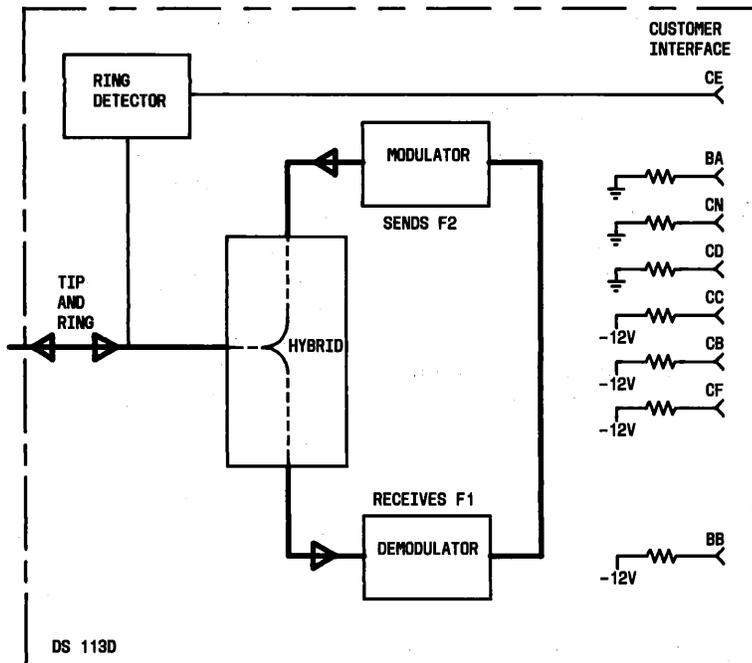

Fig. 4—Digital Loop-Back Test Mode—Simplified Block Diagram
2.12 Entering the digital loop-back test mode (Fig. 4) causes the data set internally to loop BB (receive data) to BA (send data) and simulate an *on* condition of the CD (data terminal ready) circuit. In addition, this causes the following to occur: